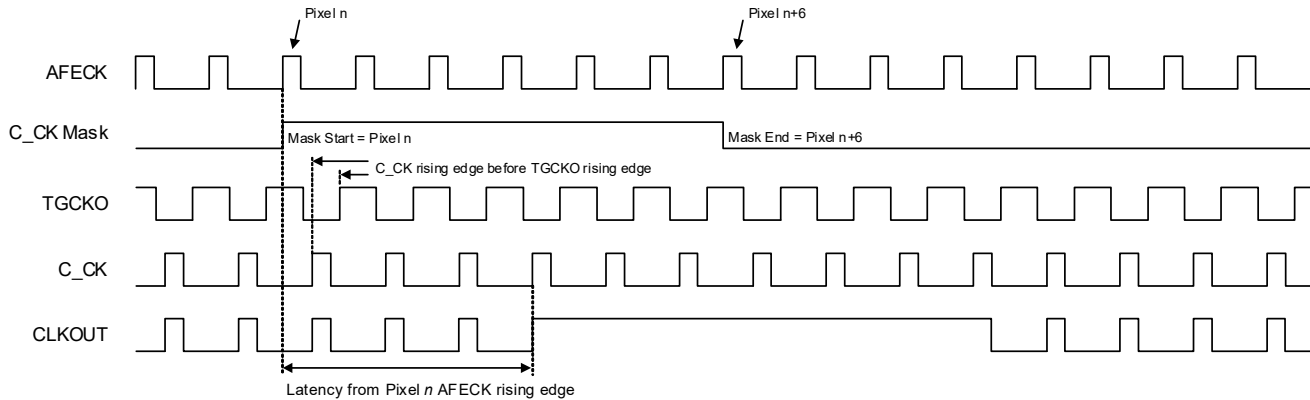

Figure 4-63. Clock Mask Timing—C_{CK} before TGCKO
- If the rising edge of C_{CK} occurs before the rising edge of TGCKO (each measured from the rising edge of AFECK), the mask begins at the fourth C_{CK} rising edge following the Pixel *n* AFECK rising edge, as shown in Fig. 4-63.